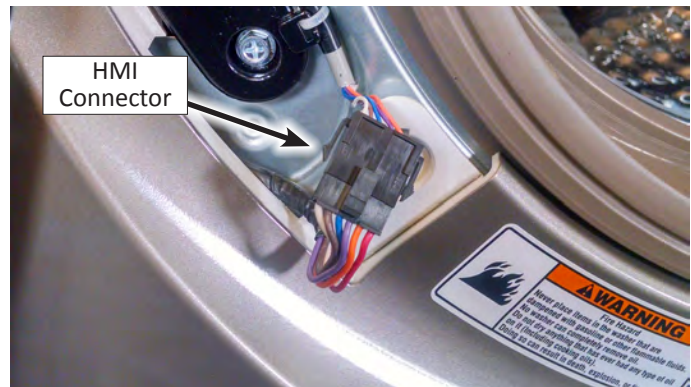

Figure 4
5. Remove tape and bag, and disconnect HMI connector (see Figure 4). Preserve the tape and bag for reassembly.